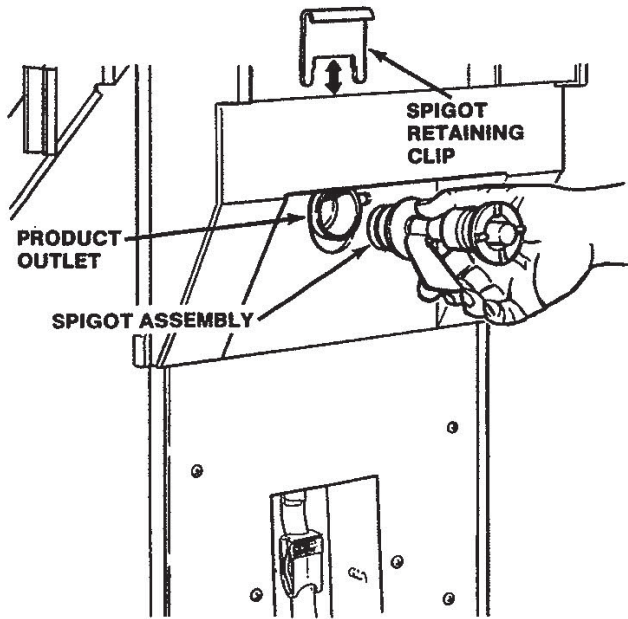

Figure 13. Removing Spigot Assembly
- D. Remove the spigot assembly by reaching inside the decanter rack and lifting out the spigot retaining clip. Pull the spigot assembly straight out of the product outlet (Fig. 13).